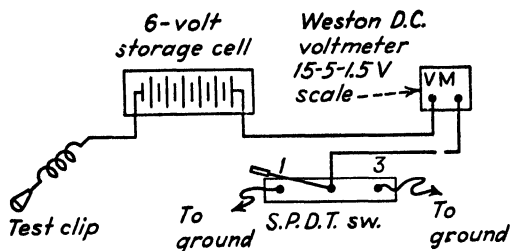

FIG. 20-15. Connections of equipment used in measuring ground resistance. (Courtesy Oklahoma Gas and Electric Co.)
**Ground-resistance Measurement Equipment.** The equipment shown in Fig. 20-15 consists of a 6-volt storage battery and a 15-5-1.5-volt range voltmeter, together with a single-pole double-throw switch and connections.